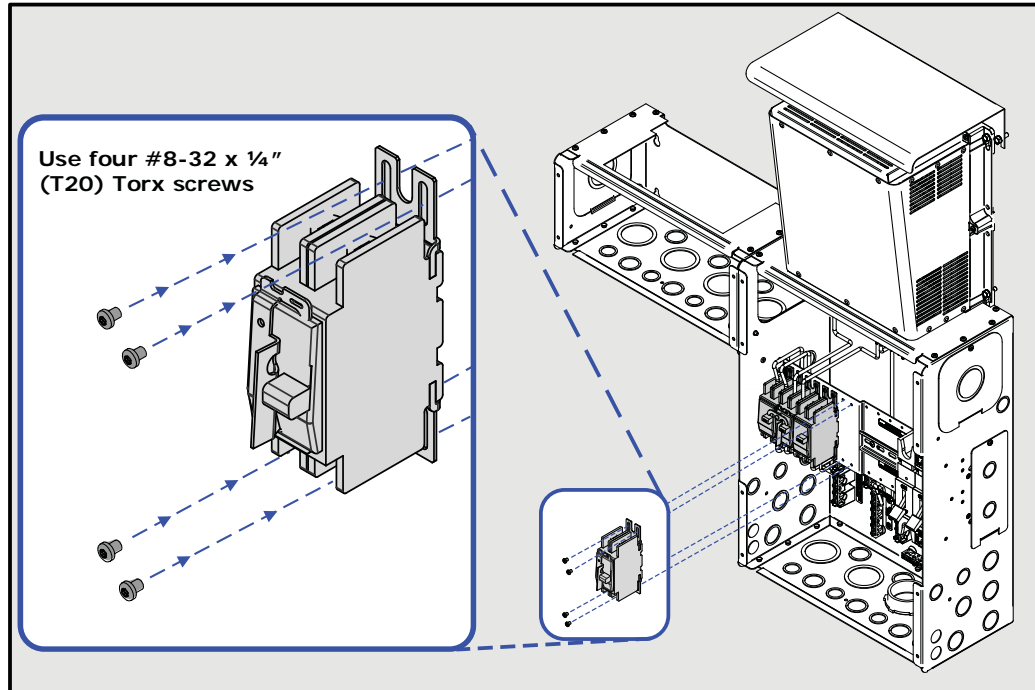

**Figure 2-10, Attaching the New DC Breaker**
3. While holding the new DC breaker in place, fit two new mounting straps over the new DC breaker. Ensure the holes on the new mounting straps — that are over the new DC breaker — line up with the holes of the adjacent two existing mounting straps (see Figure 2-10).
**Note:** Figure 2-10 includes the new breaker's DC wire connections. Actual connections occur in Section 2.2.